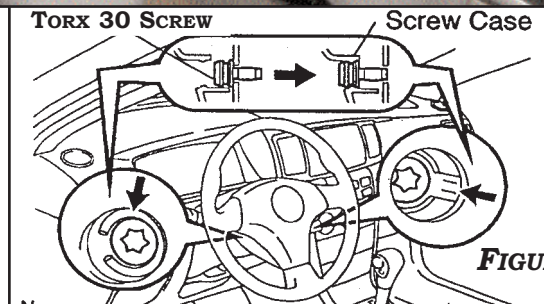

FIGURE 1
2. REMOVE AIRBAG BY RELEASING SIDE PANELS FROM STEERING WHEEL AND EXTRACTING THE TWO 30 TORX SCREWS AS ILLUSTRATED IN **FIGURE 1**.